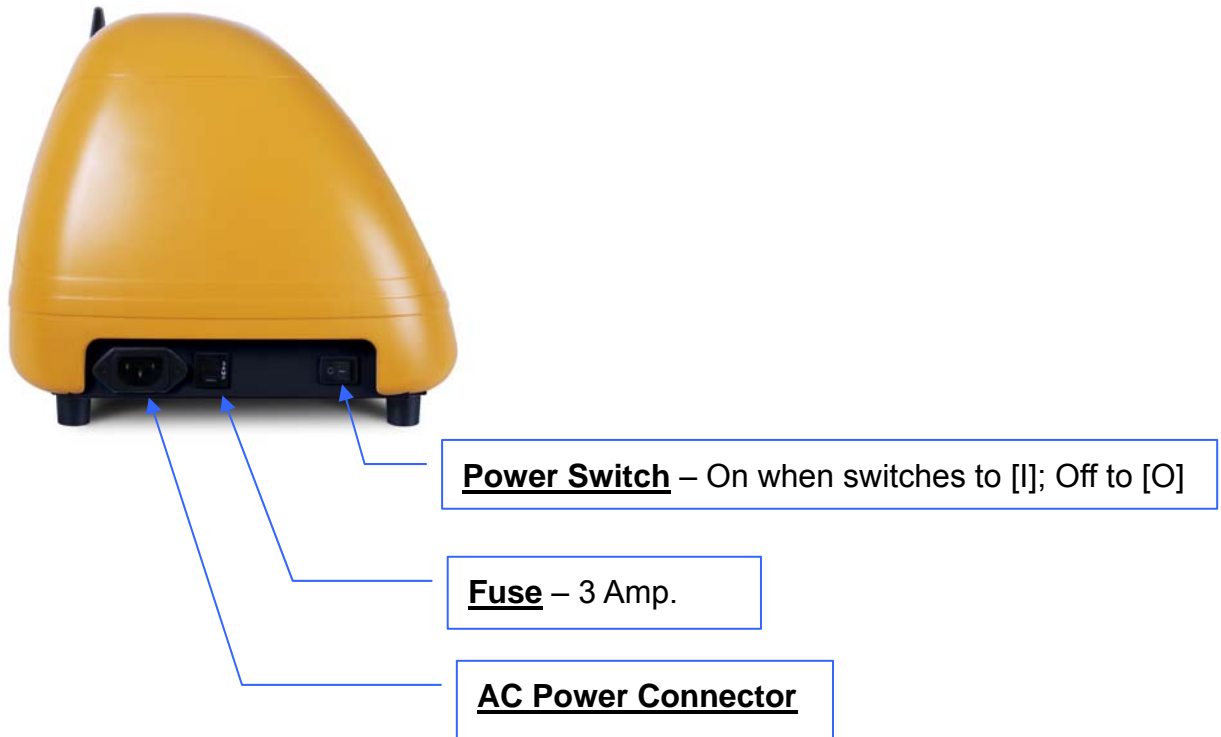

Figure 1-4
1.4.4 The Left-hand Side of Expert Pro (Figure 1-4)